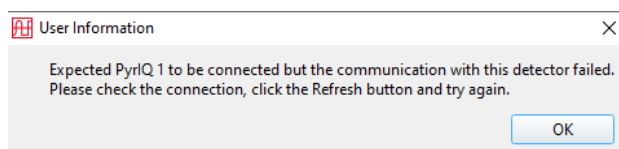

Fig. 25 Message when connection to PyrIQ Detector 1 is lost before DAQ
- If a detector is disconnected after being recognized during the initialization phase, pressing the  button will prompt the software to display the error message shown in Fig. 25.